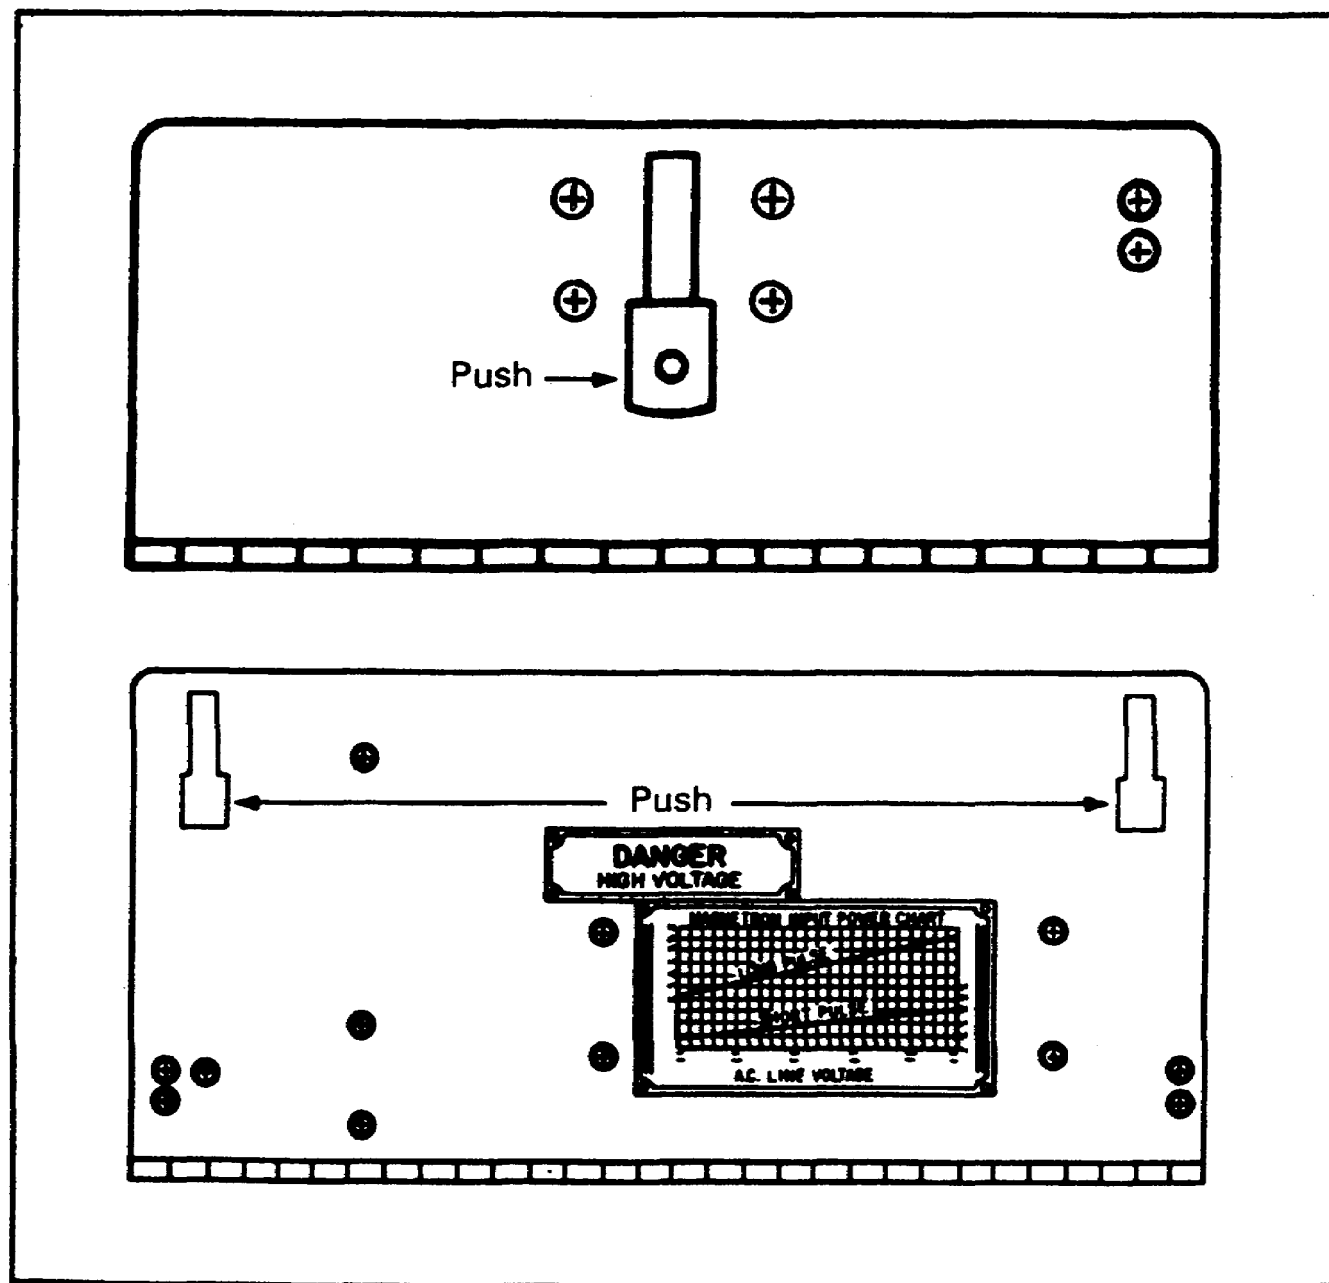

Figure 45. Panel covers.
NOTE: On receiver chassis and transmitter chassis, it will be necessary for you to push the quick release latches and pull down the panel covers for access to controls and test points. (See Figure 45.)
c. Locate and release latches on the panel covers of the receiver chassis and transmitter chassis. (See Figure 45.)
- _____ Release latches on receiver and transmitter panel covers (Figure 45)